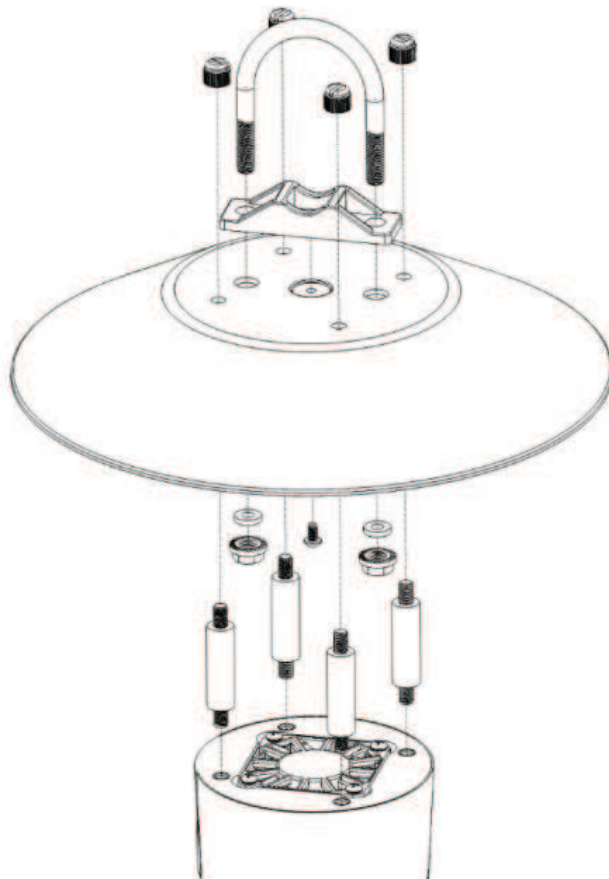

Figure 7-2. Exploded view
2. If not already assembled, insert the shorter threaded end of the nylon standoffs into the shield body (Figure 7-2 [p. 9]).